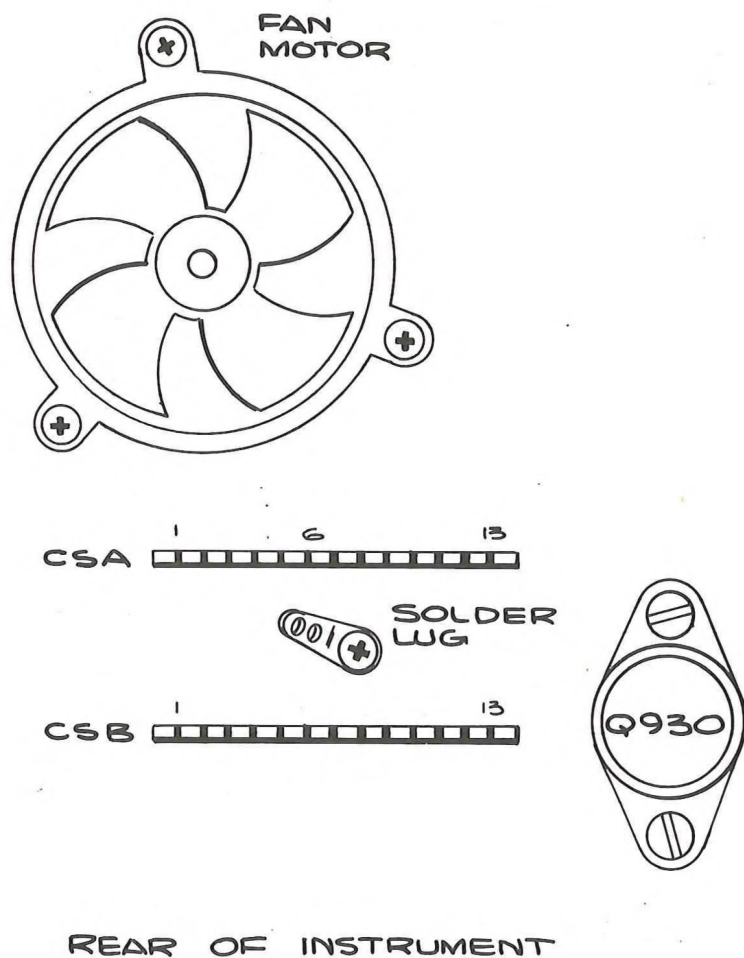

Fig. 2
- () Dress the wire through the plastic grommet in the rear bulkhead plate to the solder lug shown in Fig. 2 (DO NOT solder yet).
- () 3. Unsolder the #22 white stranded wire from CSA-6 (see Fig. 2) and solder it, along with the wire installed above, to the solder lug shown in Fig. 2.